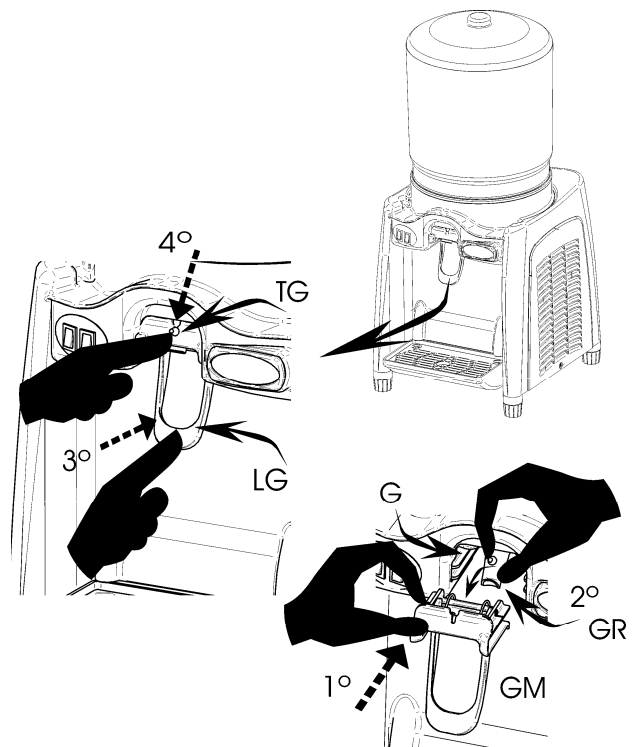

Figure 15
14°. Introduce (1°) the tap body (GM) through the sliders, (2°) and the tap rubber (GR) in its lodging, inside the tap body, (3°) Push backward the tap lever (LG) and (4°) Introduce the snug of the gum dispenser (TG) in its lodging (Fig.15).